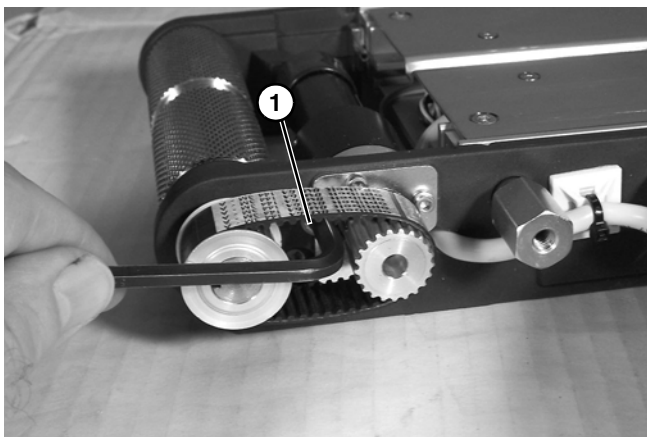

Figure 51
5. Loosen timing belt tension cam (**Figure 51, item 1**).